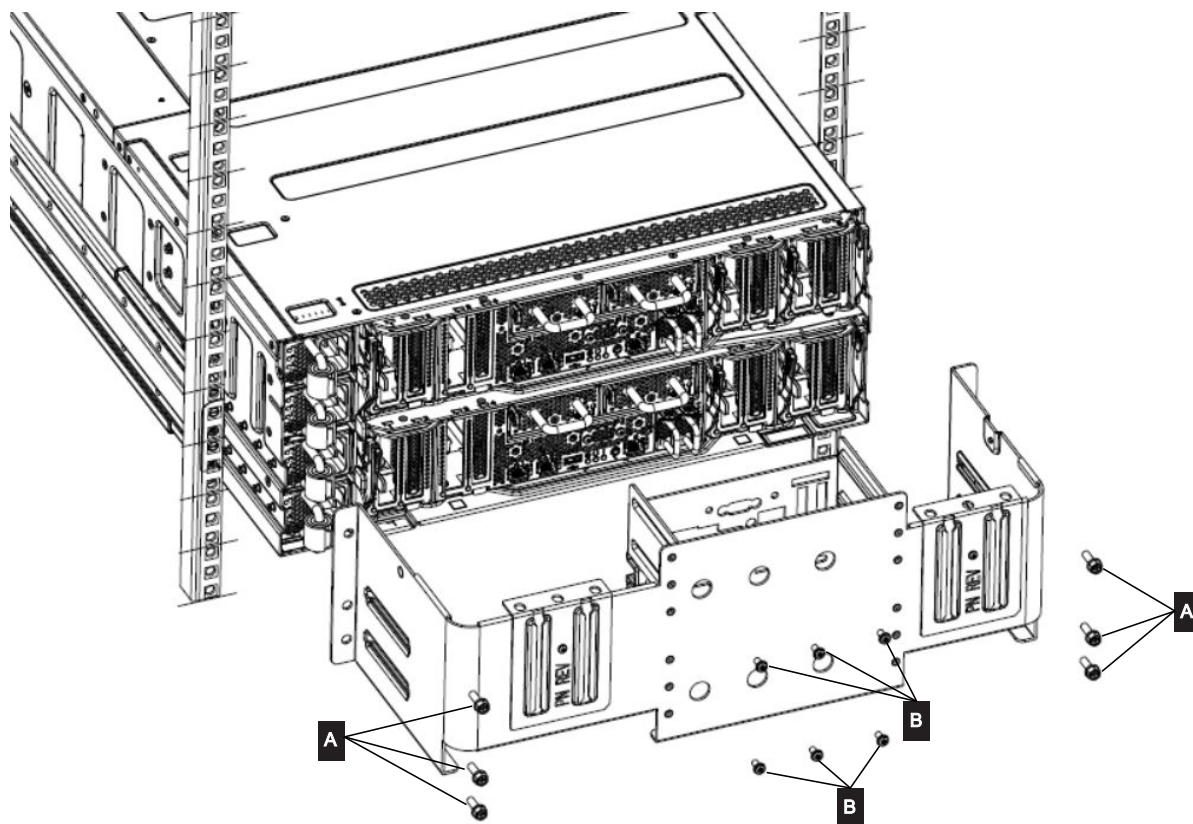

Figure 252. Removing the shipping bracket from the back of a control enclosure.
1. Remove the 3 screws shown as A in Figure 252 on page 312 on each side of the shipping bracket
2. Remove the 6 screws shown as B in Figure 252 on page 312 holding the middle of the shipping bracket to the back of the control enclosure.